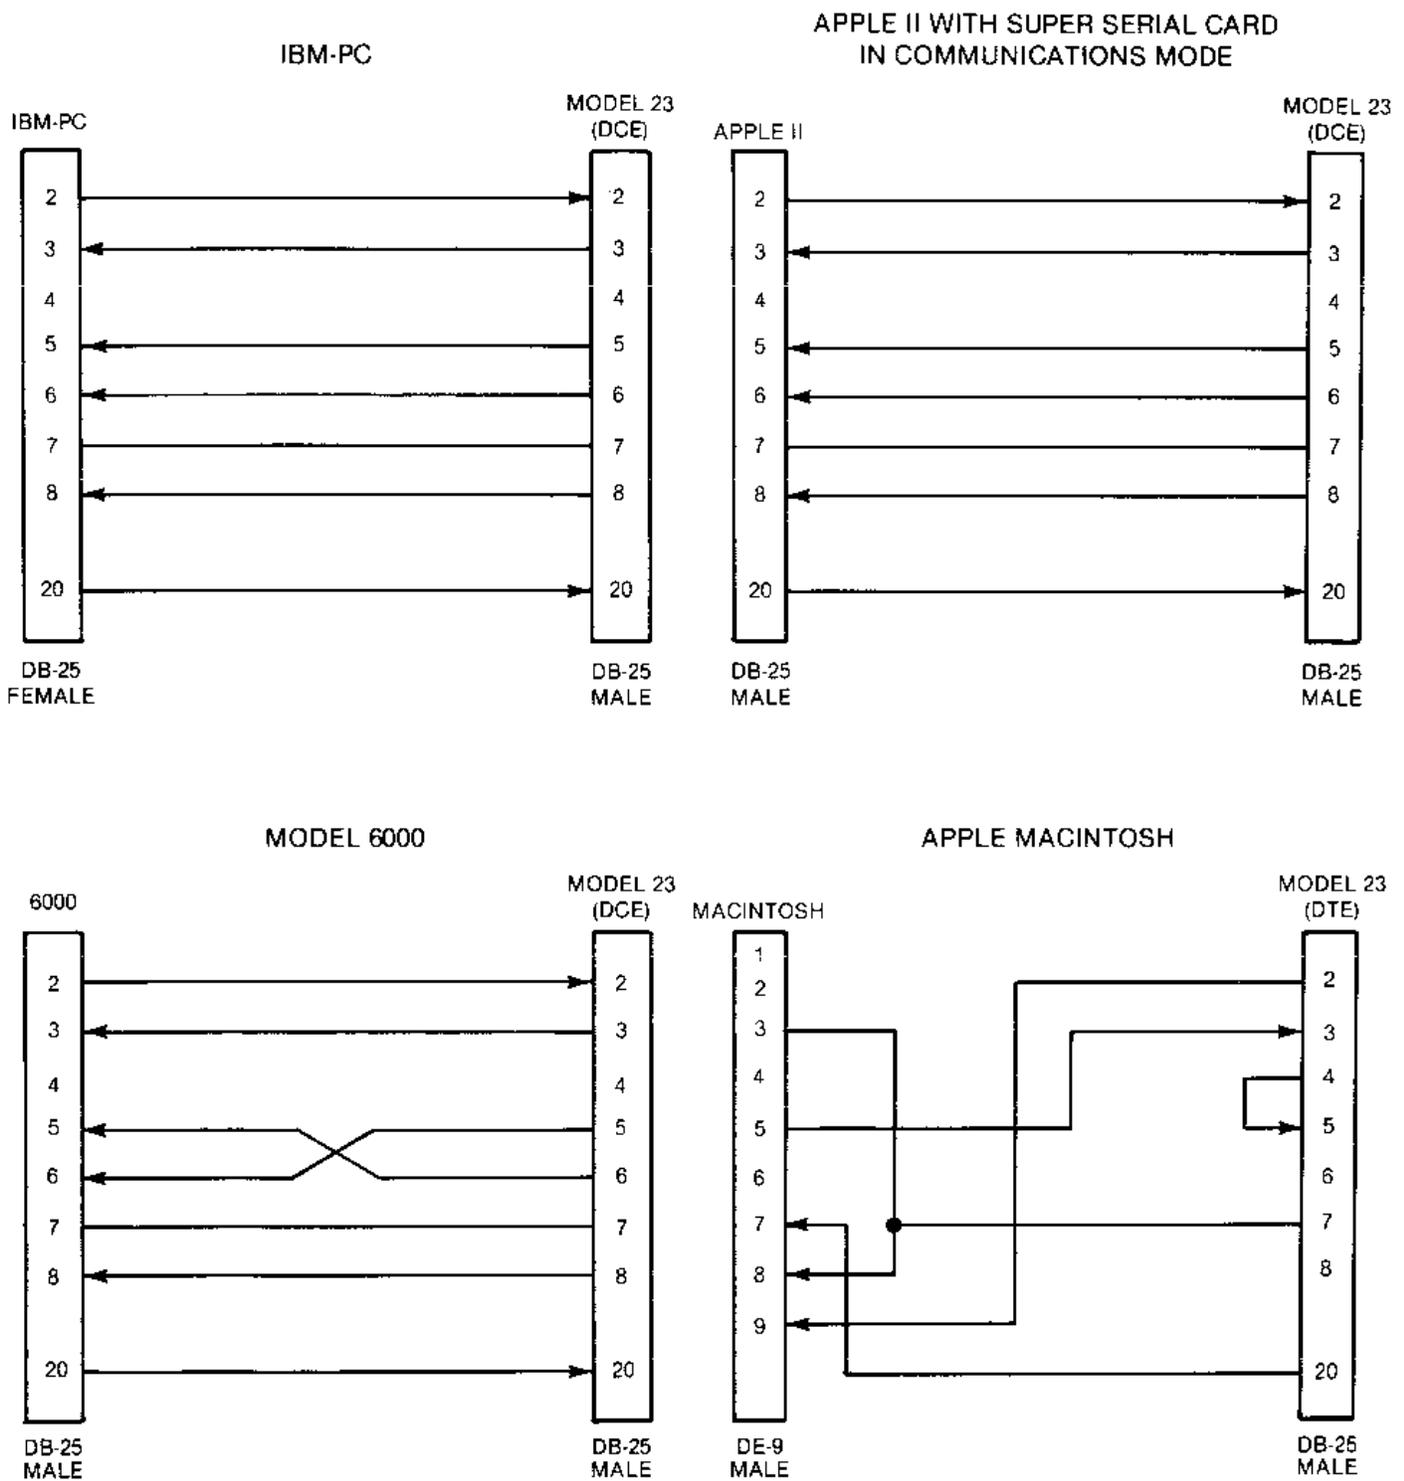

Figure 2-10. Typical Examples of Serial Cables
2. In most cases a straight through cable can be used to connect the Model 23 with the other device. The Model 23 only requires the connection of pins 2, 3, 5, 7, and 20 but the other device may require more. Examples of typical cable assemblies are shown in figure 2-10. However, there are many interpretations of the RS-232-C standard and either of the following procedures (A or B) should be used to ensure that the control and handshake signals are properly connected.